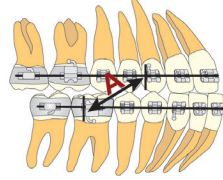

Figure 2.
- Measure from the distal edge of the upper cuspid bracket to the distal end of the lower 1st molar lip bumper tube (Figure 2).
- See the chart below for measurement ranges (A) and part numbers.